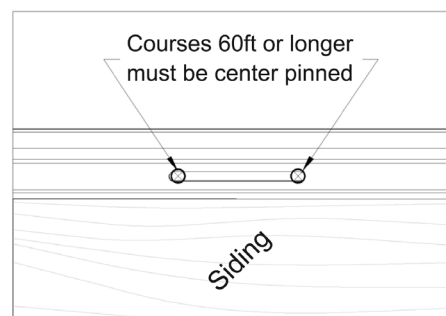

Figure 6
- Courses of siding measuring 60' or longer must be pinned at the center of the course. Pin the course by placing fasteners at both edges of a single nailing slot. This will ensure that a course expands and contracts in both directions (Figure 6).